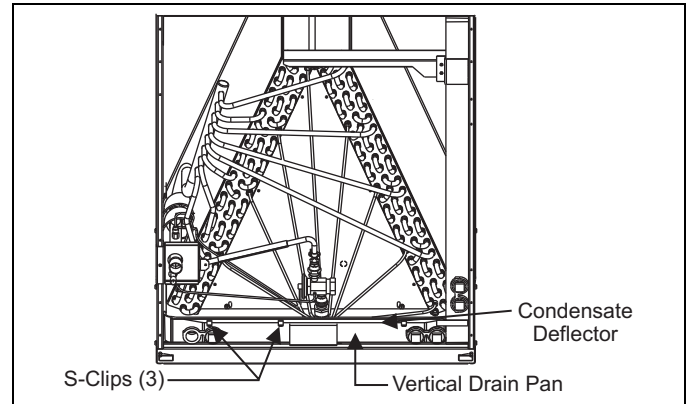
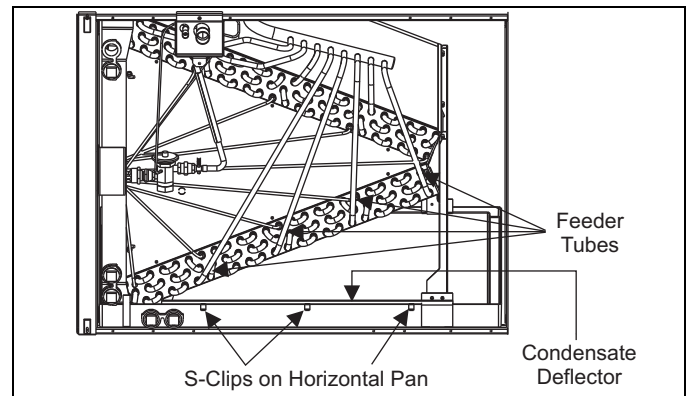

FIGURE 11: Condensate Deflector on Vertical Drain Pan
FIGURE 12: Condensate Deflector on Horizontal Drain Pan Edge
*Do not drill any holes or drive any screws into the front duct flange on the coil in order to prevent damaging coil tubing (see Figure 12).*
Dimension "C" should be at least 2/3 of dimension "D". See Figure 12.
No action required. See Figure 11.
Use an appropriate tool to pry out water deflector with two or three s-clips from the vertical drain pan. See Figure 11. Relocate the deflector with s-clips on the Horizontal Drain Pan lined up to the coil support bracket. See Figure 12. This positions the deflector below the feeder tubes to channel the condensate to the drain pan.